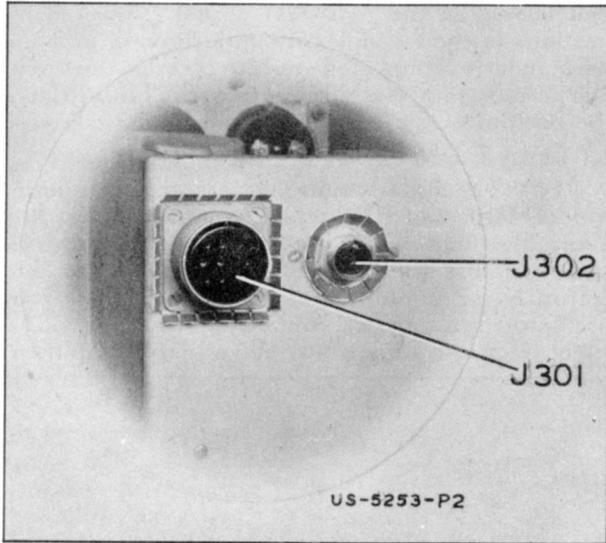

Figure 1-12 — Models RBB/RBC Radio Receivers (Rear Section Showing J301, J302)
(3) The rear of the unit (upper left-hand corner as viewed from the back) carries the power supply receptacle (J301) for interconnection with the power unit. Adjacent to the power supply receptacle is the audio output receptacle (J302). See Figure 1-12.
(4) As previously mentioned, an audio band-pass filter is employed in the i-f/a-f unit. This filter is mounted on top of the chassis, and carries a terminal board which projects through to the bottom of the chassis for connection into the circuit. In case it is desired to interchange i-f/a-f units between RBB and RBC equipments, it will be necessary to remove the band-pass filter unit and substitute the correct filter: